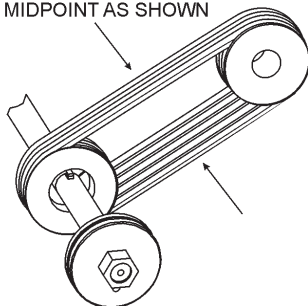

Figure 54. V-Belt Adjustment/Tension
- Remove the **Belt Guard** (Pointers and Covers Assy., item 15), then loosen the tension of the V-Belts
- Loosen the (4) 1-1/2" HHC screws (Engine Mount Assy., item 5).
- Loosen and back-off the **Engine Mount Carriage Bolt** (Engine Mount Assy., item 1) from the frame to permit the **Engine Base Plate** (Engine Mount Assy., item 9) to pivot.
- Adjust for the correct V-belt tension (See Figure 54).